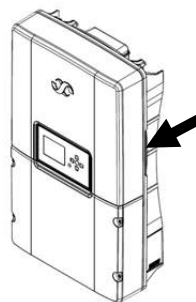

Figure 2.4.2: “Handles”
- Both sides of the inverter case are narrowed in order to get a better grip on the device. Lift up the inverter carefully out of the box using the “handles” illustrated in *Figure 2.4.2*.